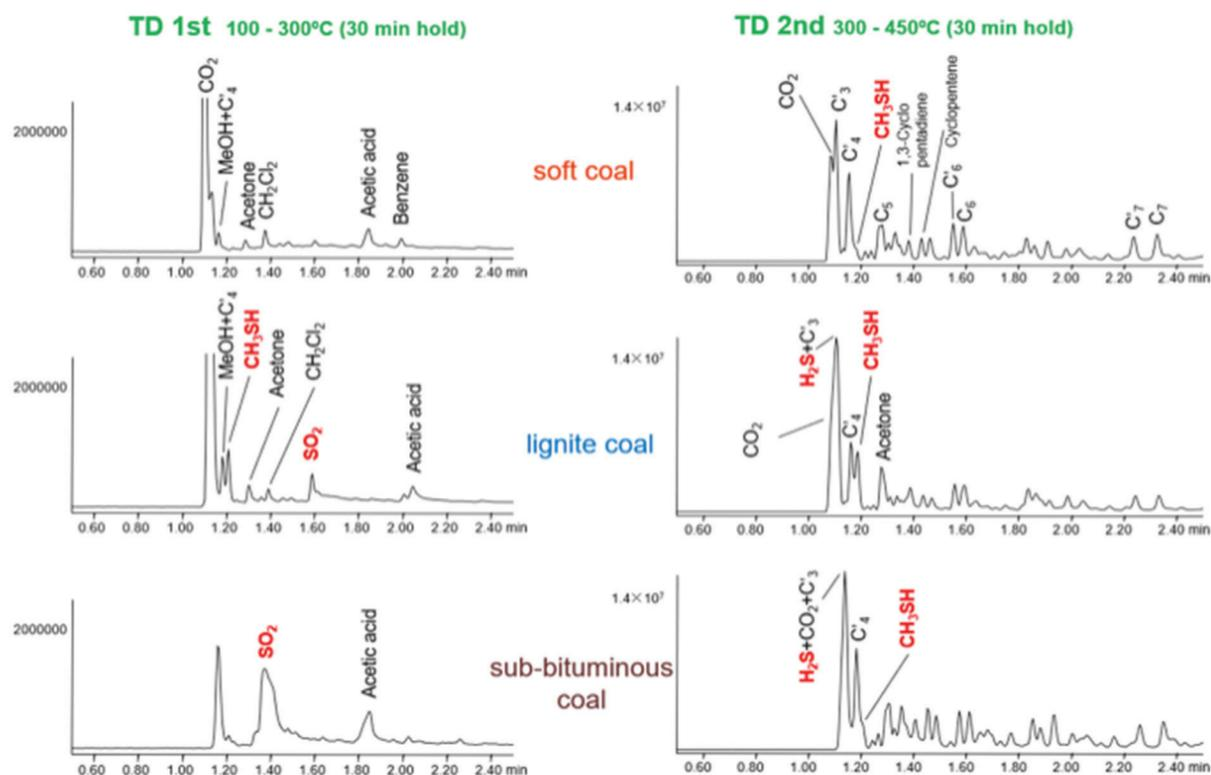

Figure 5. The Expanded View of 0.5-2.5 Minutes of TD Chromatograms (Shiono et al. 2013)
Using the Thermal Desorption (TD) mode of operation, the volatile and light fraction of the samples were also analyzed. The first TD was performed from 100 to 300°C and the second TD was from 300 to 450°C. Figure 5 shows the expanded view of 0.5 to 2.5 minutes range of TD chromatograms with the peak identifications. The sulfur-containing compounds (SO2, CH3SH, and H2S) were observed in lignite and sub-bituminous coal, whereas there was little indication of sulfur compounds in the soft coal (Shiono et al. 2013).